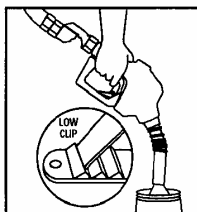

FIGURE 7/FIGURA 7
- Start flow into test can, place nozzle in low clip position. (Figure 7)